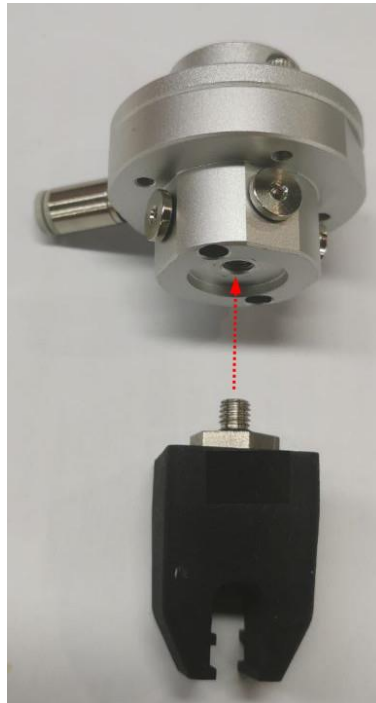

Figure 2.13 Install soft beak 2 to connection block
**Step 3** Install the soft beak 2 to connection block, as shown in Figure 2.13